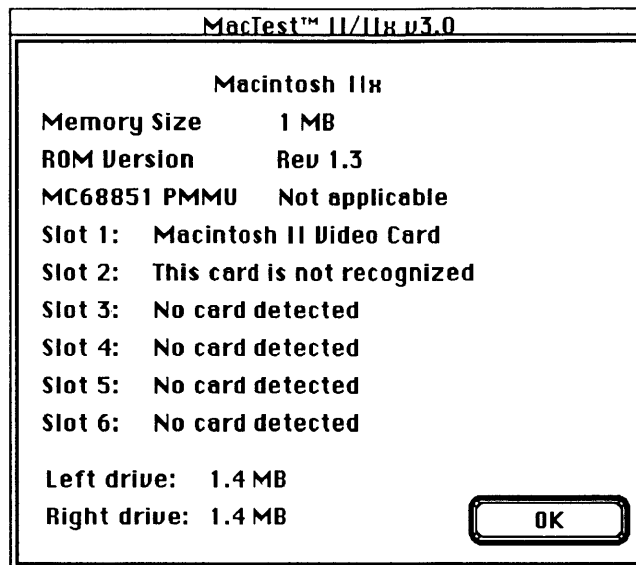

Figure 3-3
2. **Configuration:** The following window (Figure 3-3) will appear when **Configuration** is selected.